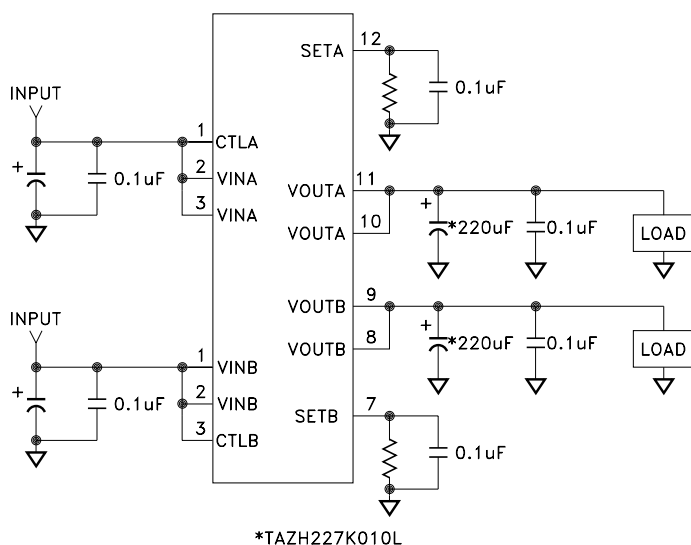

FIGURE 1
- ① Output is decoupled to ground using a 220μF tantalum low ESR capacitor in parallel with a 0.1μF ceramic capacitor unless otherwise specified. (See Figure 1).
- ② Guaranteed by design but not tested. Typical parameters are representative of actual device performance but are for reference only.
- ③ Industrial grade devices shall be tested to subgroup 1 unless otherwise specified.
- ④ Military grade ("H" suffix) and space grade ("K" suffix) devices shall be 100% tested to subgroups 1, 2 and 3.
- ⑤ Subgroup 1 T_A = T_C = +25°C